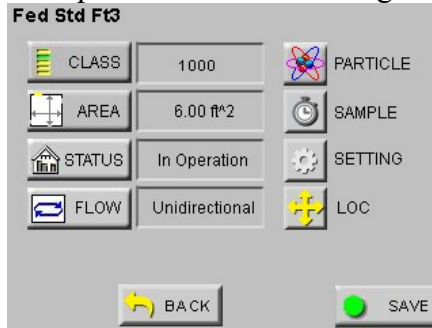

Figure 5-69 Report Setup Screen
- Use the Report Setup screen as shown in Figure 5-69.